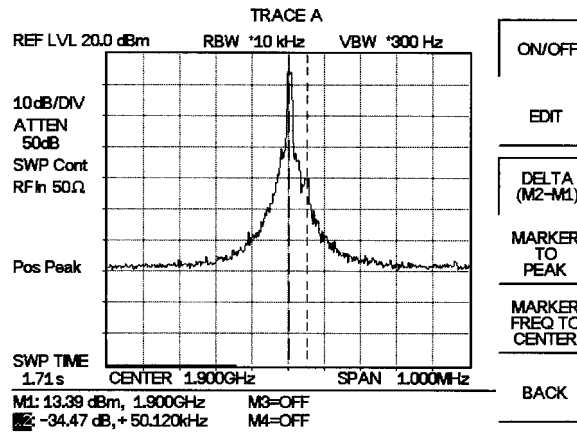

Figure 4-4. Measurement of Two Signals Having Unequal Amplitudes
**Step 6.** Change the frequency in the second source from 1900.100 MHz to 1900.050 MHz gradually and observe the effect. Figure 4-4 shows the results with the two signals spaced 50 kHz apart using a signal combiner/splitter with a loss of 6 dB.